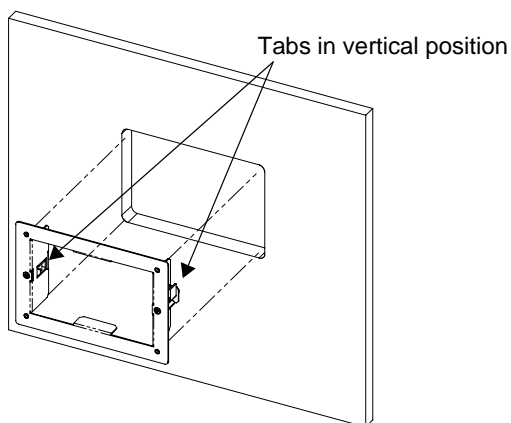

Figure 2 Inserting the Mounting Plate
3. Insert the mounting plate with the two tabs in a vertical position into the hole (see Figure 2).